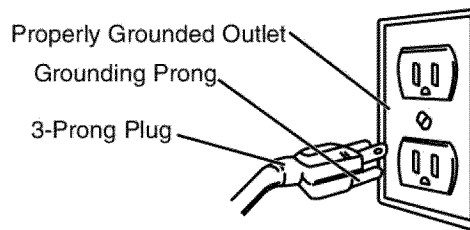

Figure 41 - 3-Prong Receptacle
- This tool is equipped with an approved 3-conductor cord rated at 300V and a 3-prong grounding type plug (see Figure 41) for your protection against shock hazards.
- Grounding plug should be plugged directly into a properly installed and grounded 3-prong grounding-type receptacle, as shown (Figure 41).